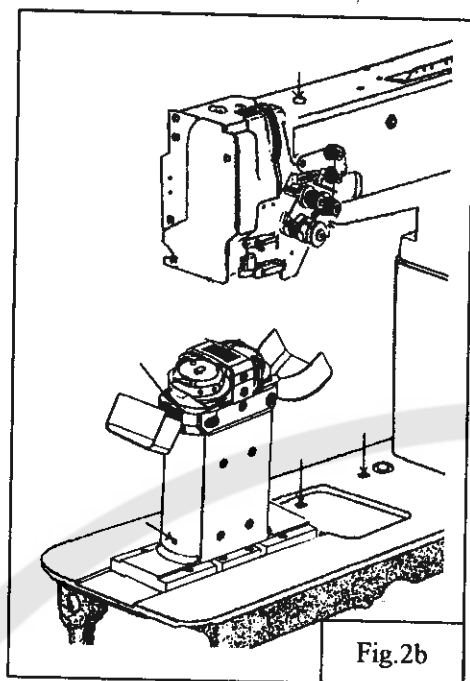

Fig.2b
2. Lubrication (2) (Fig.2a, Fig.2b)